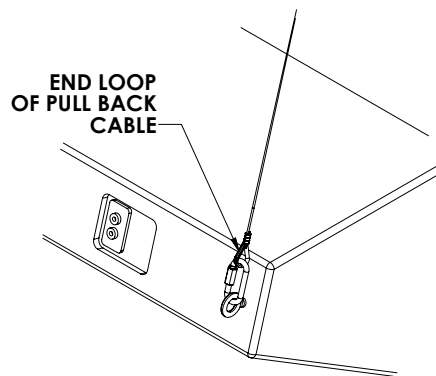

Figure 3
**Step 3:** Attach the end loop of the pull back cable to the other rear suspension point (such as eyebolts, track fitting, etc) of the loudspeaker using supplied quicklink (Figure 3).